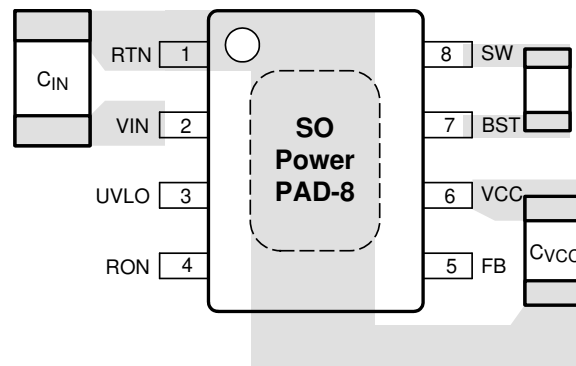

Figure 10-1. Placement of Bypass Capacitors
- C_{IN} : The loop consisting of input capacitor (C_{IN}), V_{IN} pin, and RTN pin carries switching currents. Therefore, the input capacitor should be placed close to the IC, directly across V_{IN} and RTN pins and the connections to these two pins should be direct to minimize the loop area. In general it is not possible to accommodate all of input capacitance near the IC. A good practice is to use a 0.1- μ F or 0.47- μ F capacitor directly across the V_{IN} and RTN pins close to the IC, and the remaining bulk capacitor as close as possible (see Figure 10-1).
- C_{VCC} and C_{BST} : The V_{CC} and bootstrap (BST) bypass capacitors supply switching currents to the high and low side gate drivers. These two capacitors should also be placed as close to the IC as possible, and the connecting trace length and loop area should be minimized (see Figure 10-1).